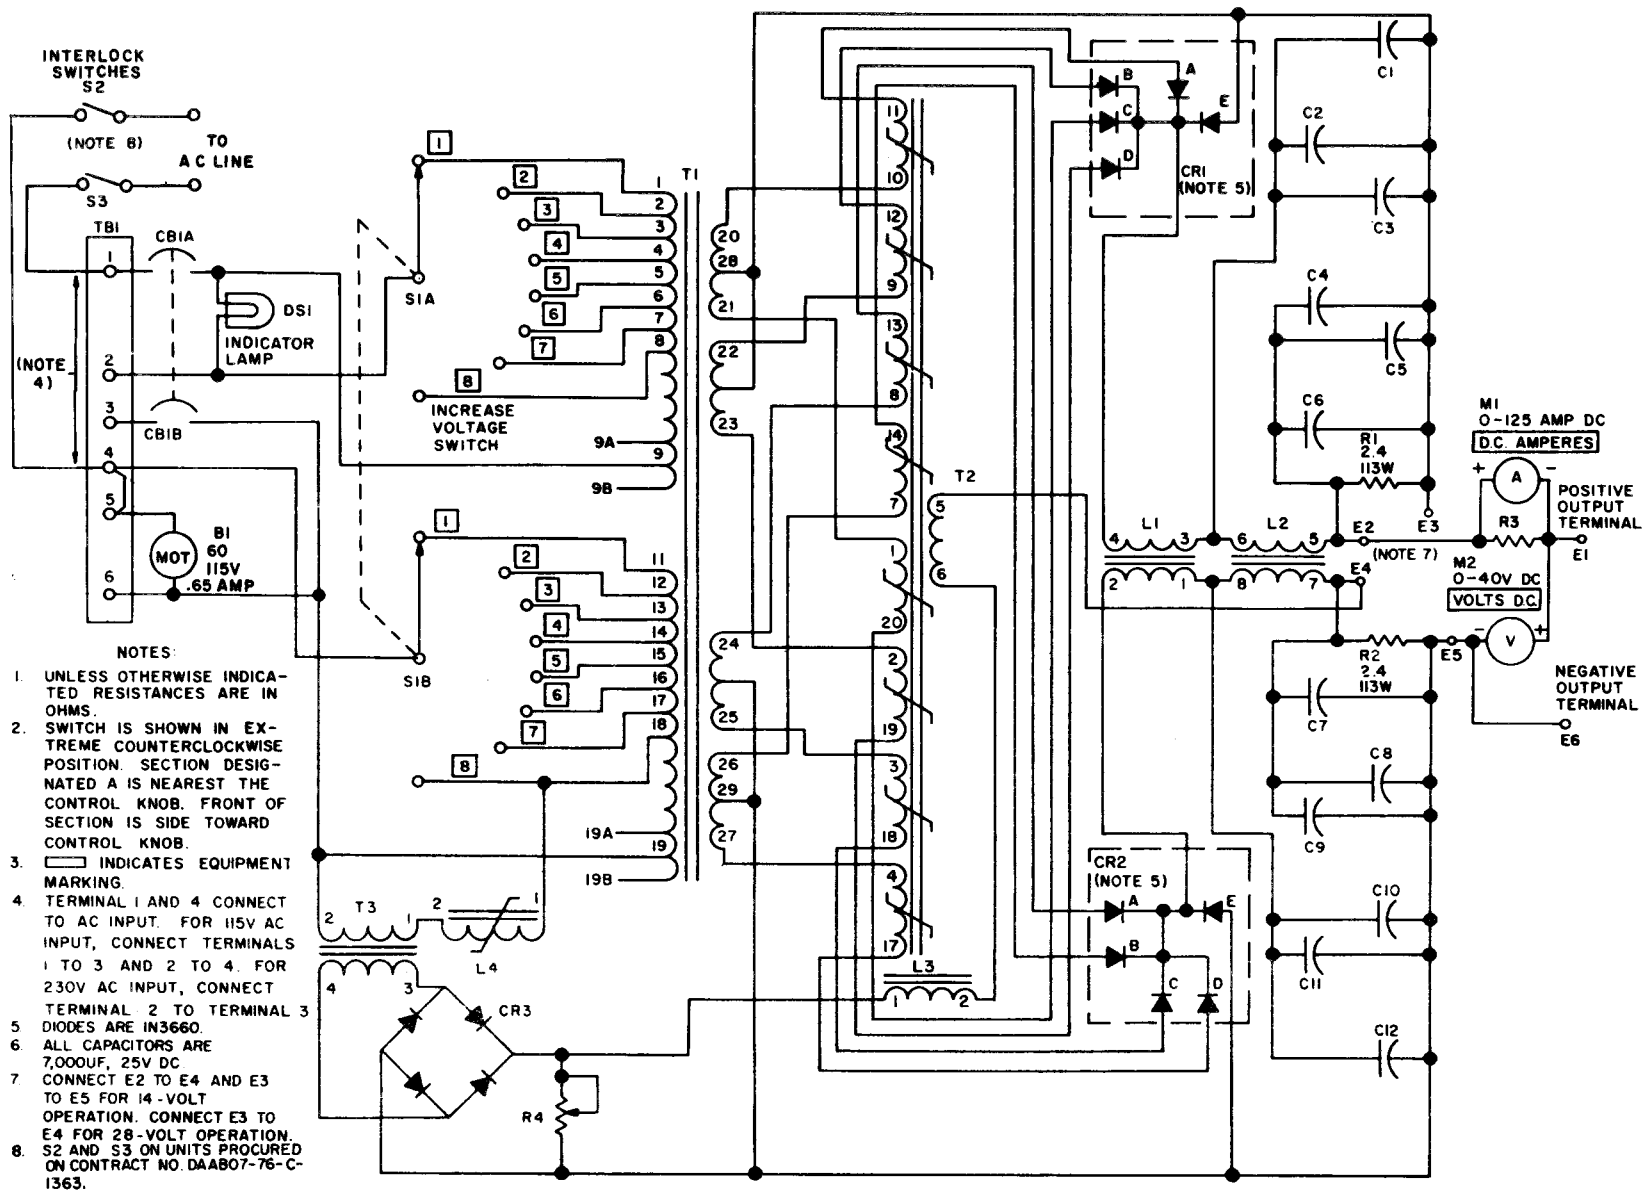
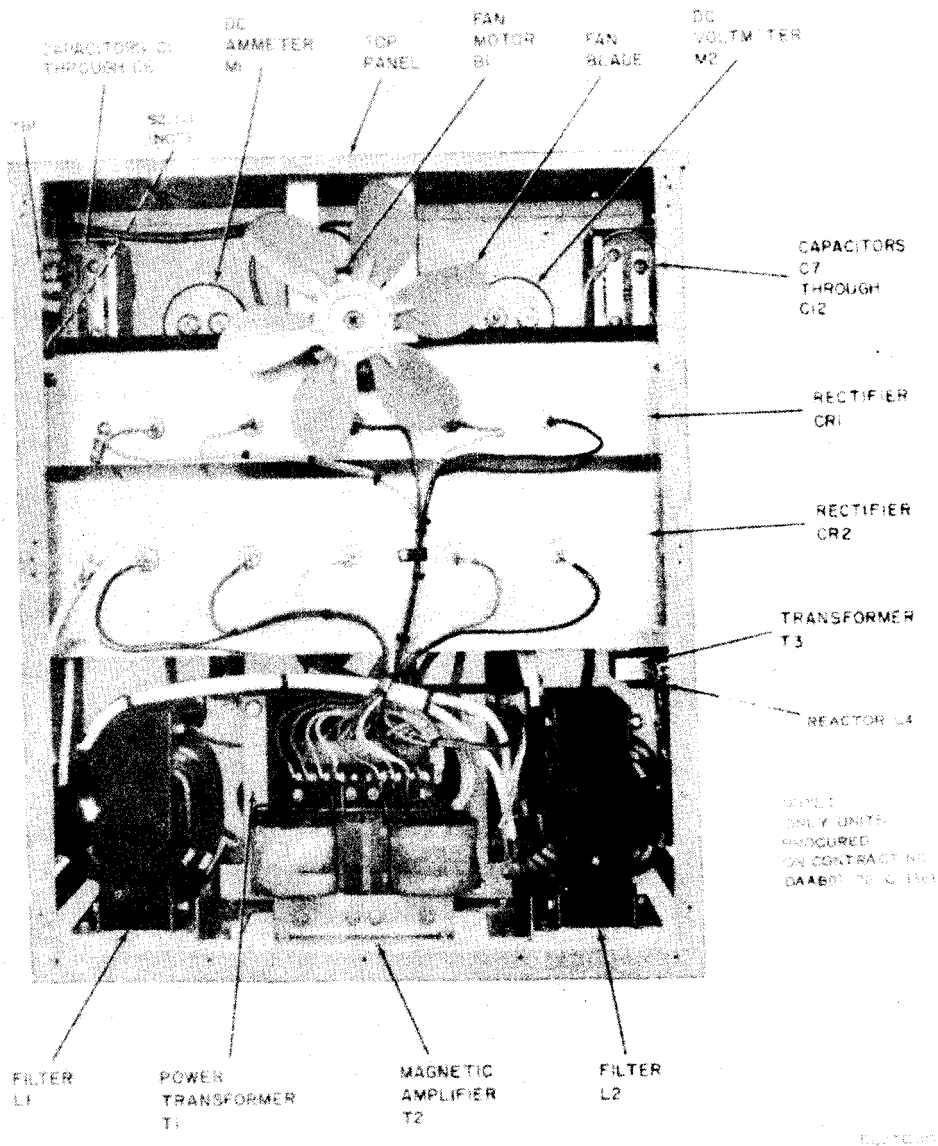

Figure 1-2. Power Supply PP-1104CG, schematic diagram.
Figure 2-1. Power supply, rear panel removed.
(fig. 1-2)
(fig. 1-2.)
a. General. In the troubleshooting chart (*d* below), procedures are outlined for localizing troubles and for isolating troubles within the various circuits of the power supply. Refer to figures 2-1 and 2-2 for parts location. Refer to the schematic diagram (fig. 1-2) to identify circuit components and to the wiring diagram (fig. 5-3) for point-to-point circuit wiring and connections. Voltage and resistance